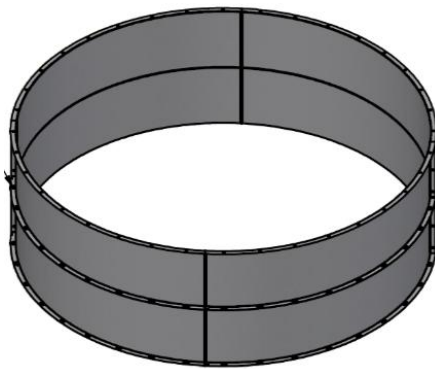

*Figure 28. Locking Collar Detail*
13. Place a drift pin in the hole of the lower bearing locking collar as shown in **Figure 28**. Tap the drift pin with a hammer in the direction of shaft rotation.